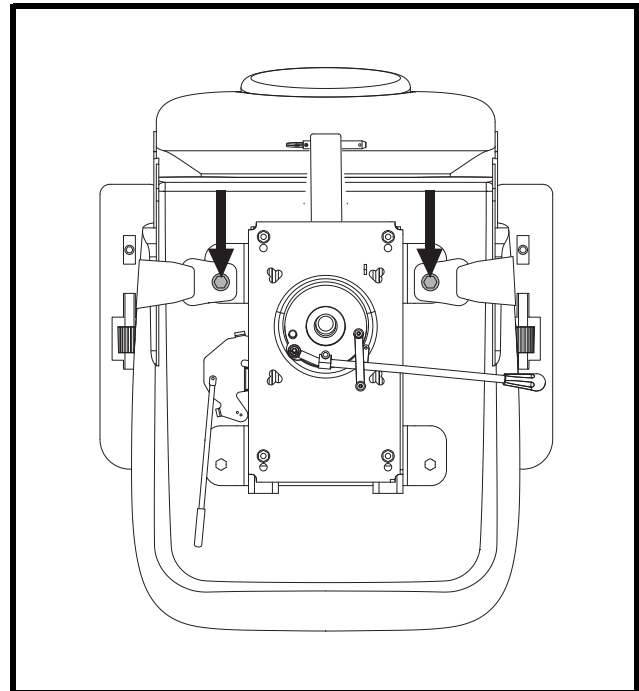

Figure 20. Positioning Belt Bolts
2. Place the seat upside down so that you can see the bottom of the seat base. **See figure 20.**